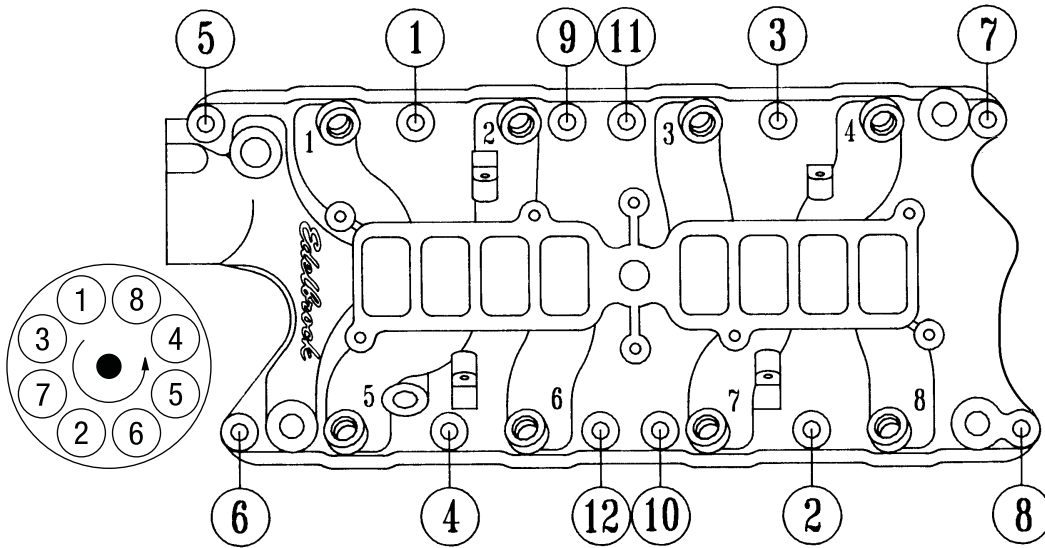

Figure 1 - 5.8 Liter Ford Torque Sequence and Firing Order
5. For ease of installation, we recommend using Edelbrock Manifold Bolt & Washer Kit, #8584. It may be necessary to re-use the original stud bolt to hold heater tube bracket in hole #3 (**See Figure 1**).
6. Install lower intake manifold and retaining bolts. Tighten bolts to 18-20 ft./lbs. in sequence (**See Figure 1**).
9. Install upper manifold and gasket (dry) using hardware supplied (**See Figure 1**). Upper manifold must be positioned so that the throttle body is towards the front of vehicle.